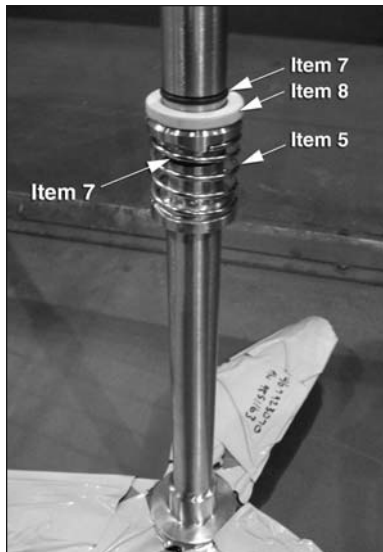

Figure 8
- Install the second O-ring in the groove of the agitator shaft further from the prop. (See Section 3.0, "Suggested Routine Maintenance" for more information on this O-ring.) See Figure 8.